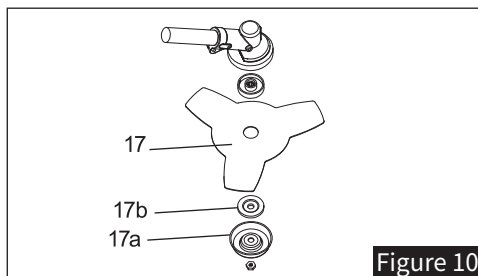

Figure 10
- Remove the outer flange (Figure 10, Item 17b).
- Install the blade (Figure 10, Item 17), the outer flange (Figure 10, Item 17b), the cutting guard (Figure 10, Item 17a) onto the shaft according to the priority as shown in the Figure 10. Ensure the rotation direction marked on the blade matches the engine's rotation.
- Remove the outer flange (Figure 10, Item 17b) and the cutting guard (Figure 10, Item 17a).
- The blade (Figure 10, Item 17) can now be taken off the shaft.